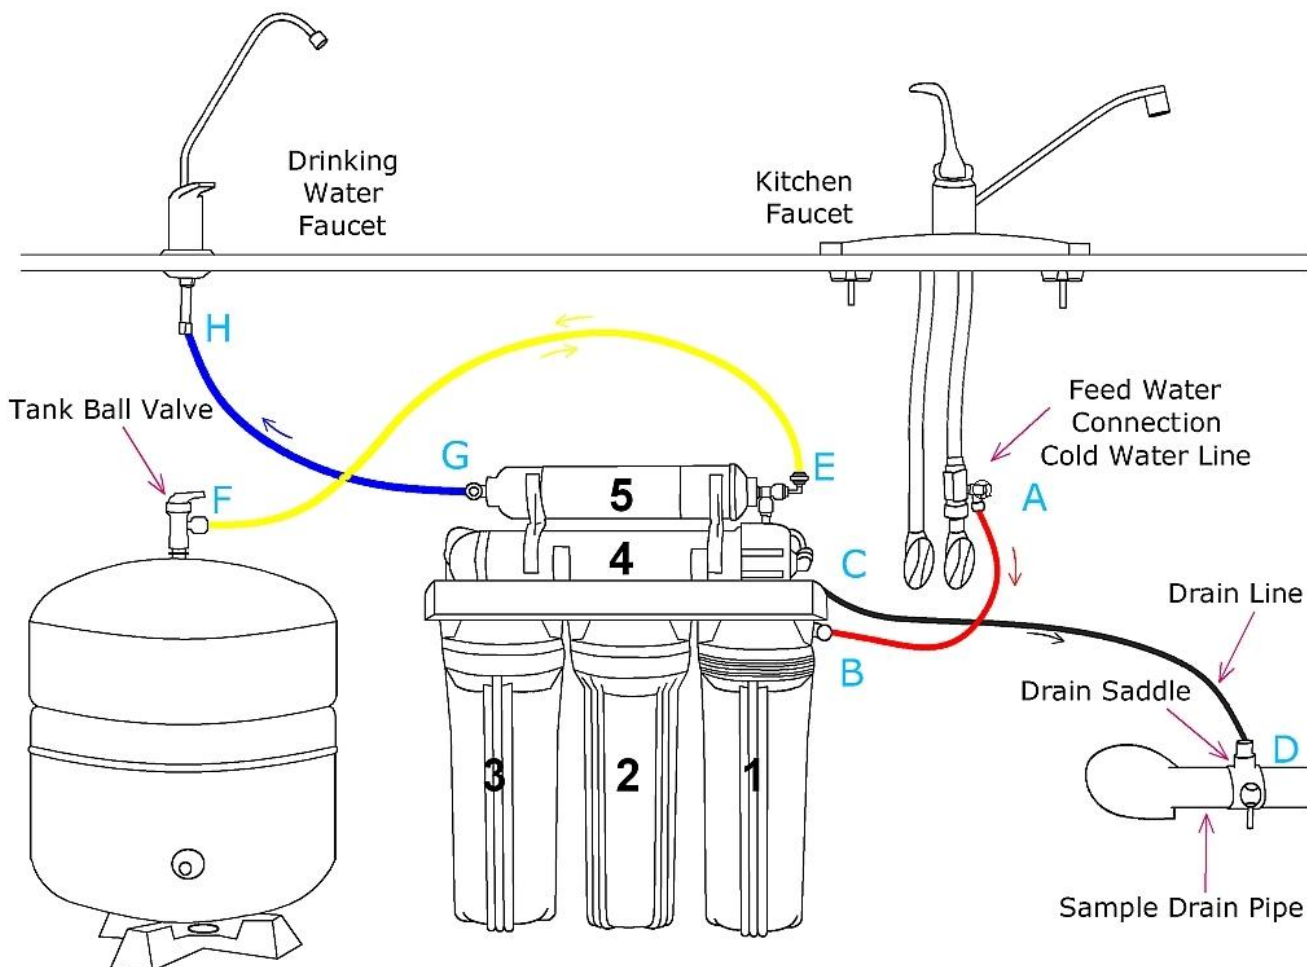

Figure 5
- 1.1 See Figure 5. Turn off the Cold Water Line via the Cold Water Supply Valve (CWSV) under the sink. Open the kitchen faucet to release any pressure and make sure the water has stopped before proceeding to the next step. Get a towel or bucket to catch any water drips. Disconnect the Kitchen Faucet Connector (KFC) pipe from the CWSV.
## Step 7: Tubing Hook Up (see figure 5 above to see letters not shown below)